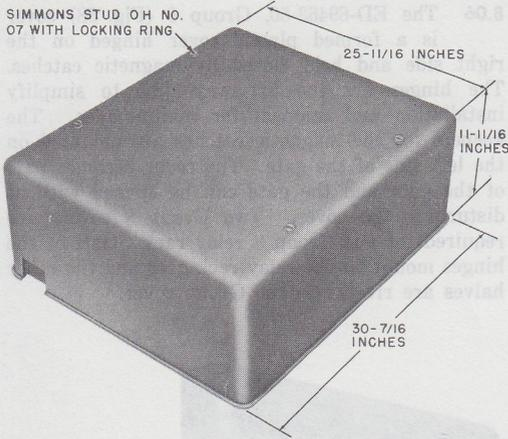

Fig. 35—Cover per ED-69368-50, Group 2
8.03 The cover per ED-69368-50, Group 2 (Fig. 35) is designed to enclose one 26A apparatus mounting on an ED-69368-50, Group 1 or 3 backboard.